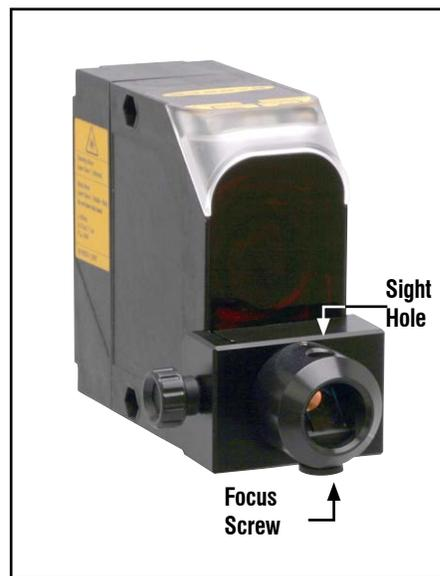

Figure 9. Alignment aid, mounted on sensor
Using the alignment aid. For precise alignment of retroreflective models at long distances, the alignment aid accessory (see Figure 9) is useful. It makes the visible pilot laser spot easier to adjust, even when it is positioned off of the retroreflective target and at a long distance – farther than 50 m (160').
2. Mount the alignment aid on the front of the sensor, over the laser emitters as shown in Figure 9.